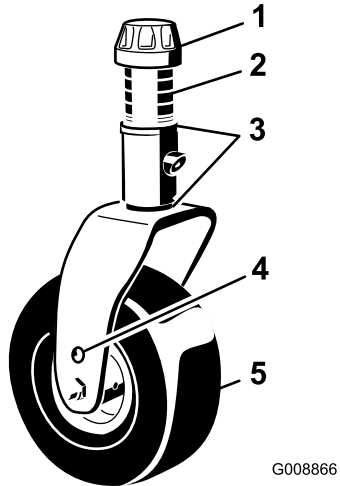

Figure 26
3. Adjust the shims (3 mm or 1/8 inch) on the front caster fork(s) to match the height-of-cut decal (Figure 26); refer to Adjusting the Mower-Deck Pitch (page 55).